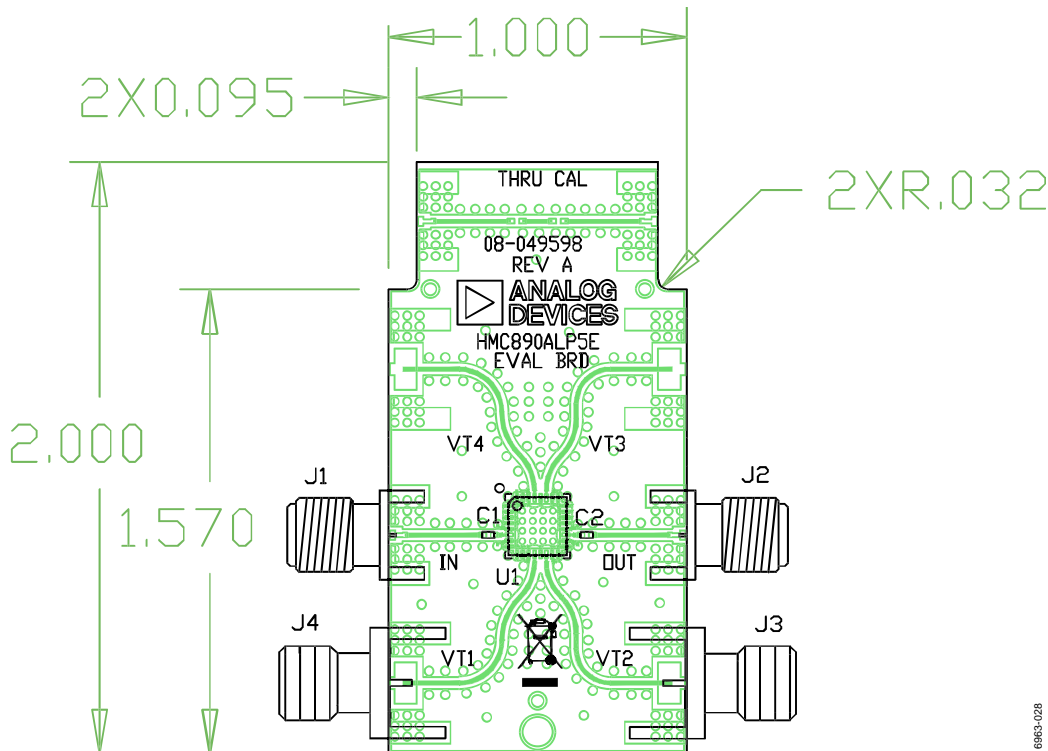

Figure 28. Evaluation PCB Top Layer
The printed circuit board (PCB) used in the application uses radio frequency (RF) circuit design techniques. Signal lines must have a 50 Ω impedance while the package ground leads and exposed pad must be connected directly to the ground plane (see Figure 28). Use a sufficient number of via holes to connect the top and bottom ground planes. The evaluation PCB shown in Figure 28 is available from Analog Devices, Inc., upon request. The HMC890ALP5E evaluation board in Figure 28 is used to evaluate the HMC892ALP5E device.